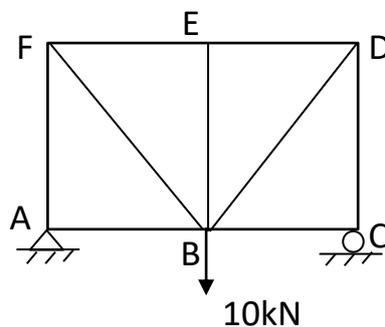

Fig.2
- 13 a) Determine the vertical deflection at E of the pin jointed plane truss shown in Fig.2 using unit load method. All members have cross sectional area 1200mm^2 and $E= 200\text{GPa}$. $AB = BC= 3\text{m}$, $AF = 4\text{m}$. (10)